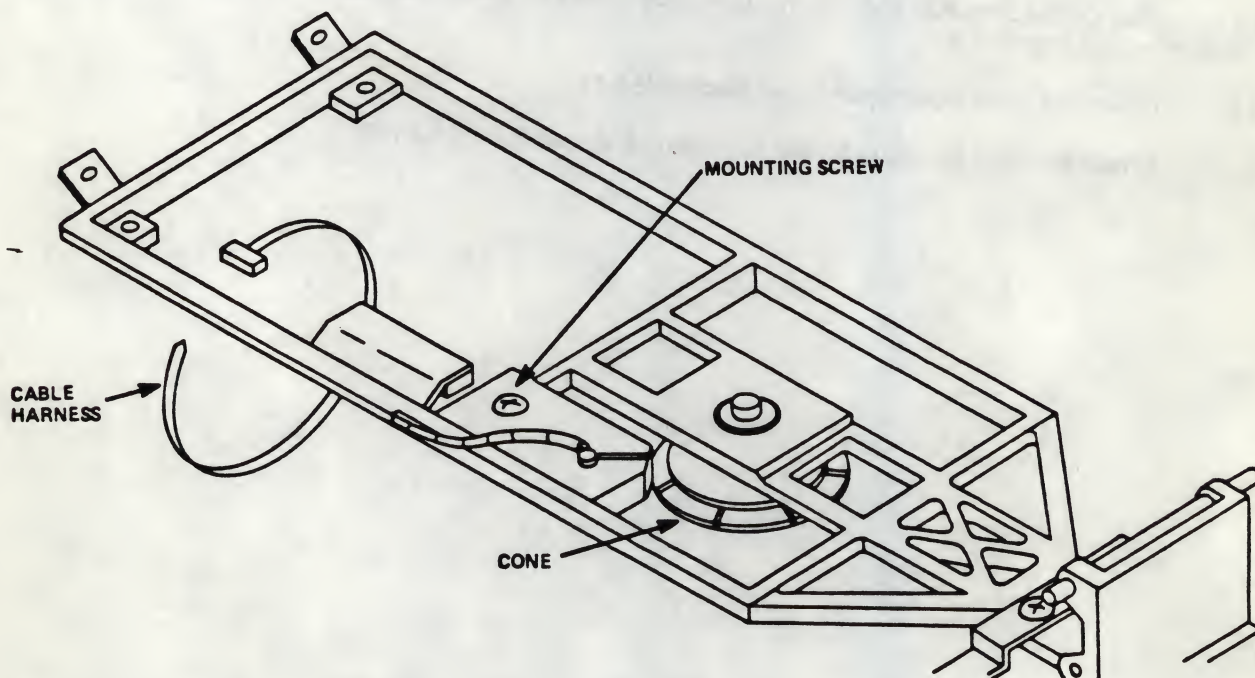

Figure 5-4
- 5.4.4 With a Phillips screwdriver, remove the mounting screw that attaches the index emitter holder to the Cone Lever Assembly (see Figure 5-4).